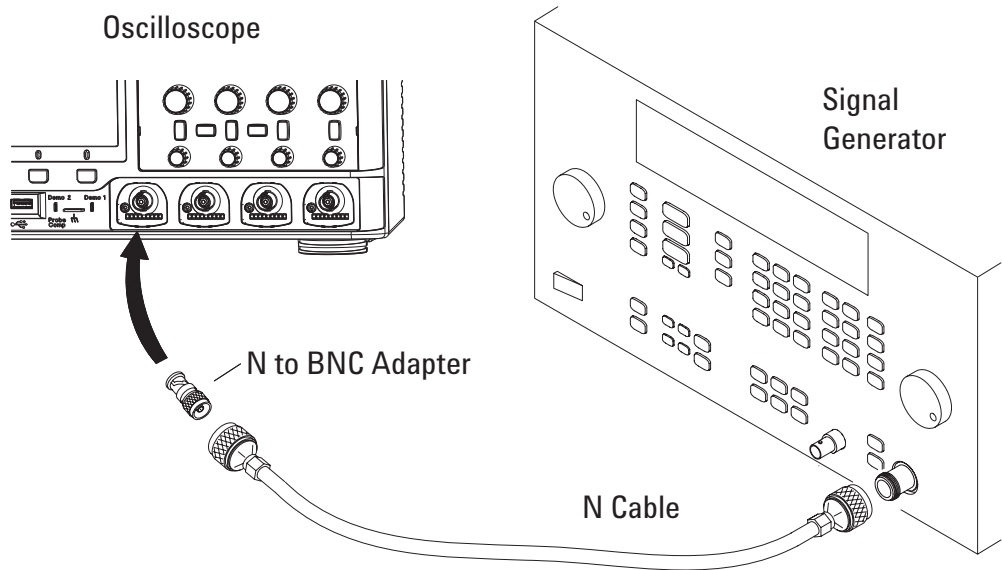

Figure 8 Setting Up Equipment for Internal Trigger Sensitivity Test
- 3 Connect the equipment (see **Figure 8**).